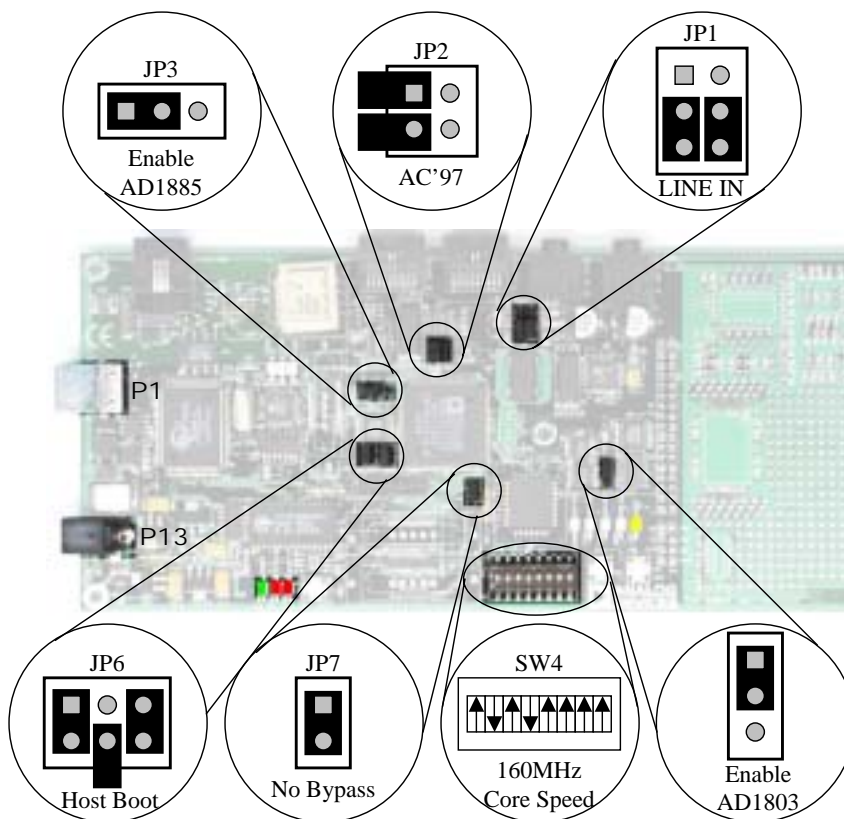

Figure 1-1. Default Jumper Settings
2. Figure 1-1 shows the default jumper settings, DIP switch, connector locations, and LEDs used in installation. Confirm that your board is set up in the default configuration before going to step 3.